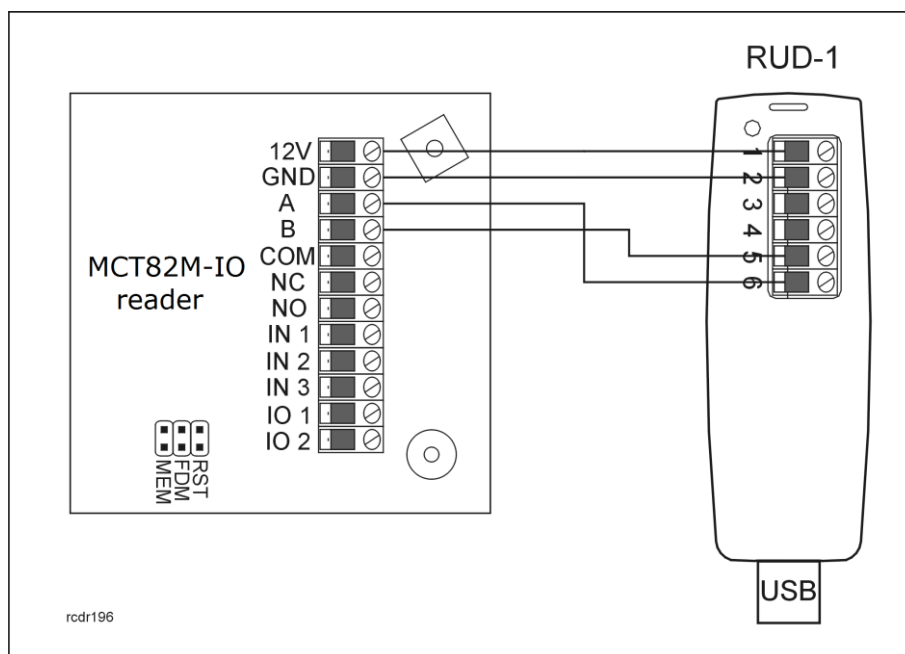

Fig. 2 Connecting reader to RUD-1 interface for firmware upgrade
1. Connect reader to RUD-1 interface according to Fig. 2.
2. Put jumper on FDM contacts (location of contacts is given on Fig. 2).